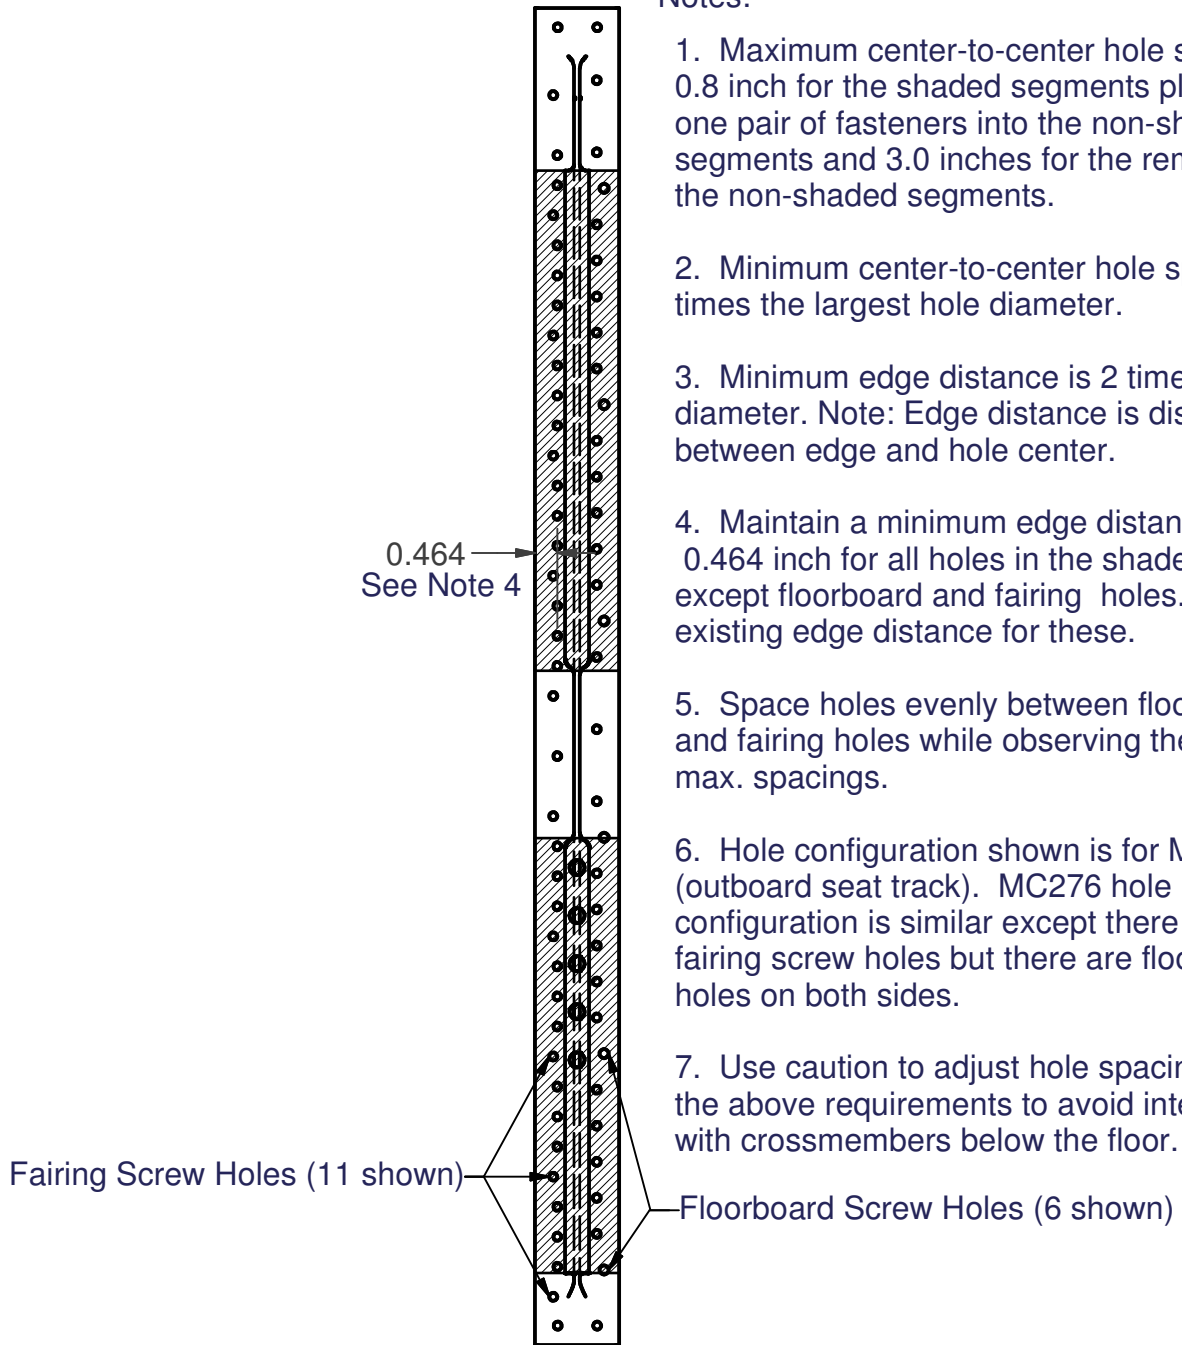

Figure 3: Attach screw hole location requirements.
7. Drill out as many of the flush rivets attaching the original seat track extrusion to the control yoke box as necessary to allow proper fastener spacing as specified in Figure 3. The control yoke box is a bent aluminum box structure that supports the control yoke pivot and attaches to the original seat track extrusion near the front inboard side of the outboard seat track. The locations of the rivets attaching the original seat track extrusion to the control yoke box may be used for fasteners attaching the new seat track to the original seat track extrusion.
13. Drill additional holes through both the original extrusions and the new seat tracks (and the control yoke box where applicable) with a number 19 drill bit as shown in Figure 3. Note: Use caution when drilling to prevent damage to wiring or any other sub-floor system components.
3. No. 10 screws may be substituted for No. 8 screws provided that the hole spacing requirements of Figure 3 are maintained.